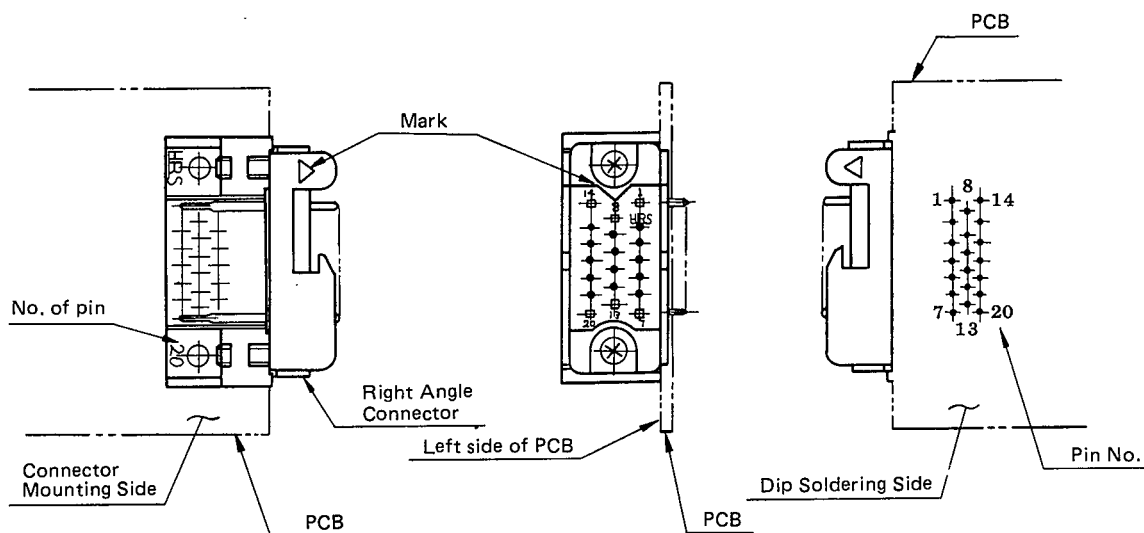

Fig. 1
1. The standard use of this type is to mount it on the left side of a vertical PC board. (Fig. 1)